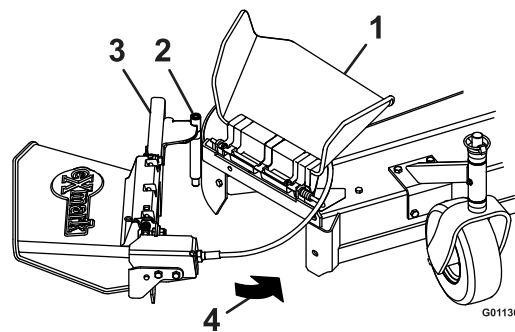

Figure 4
2. Install the OCDWB01 assembly by inserting the mounting pin into the tube welded to the rear corner of the deck (see Figure 4).